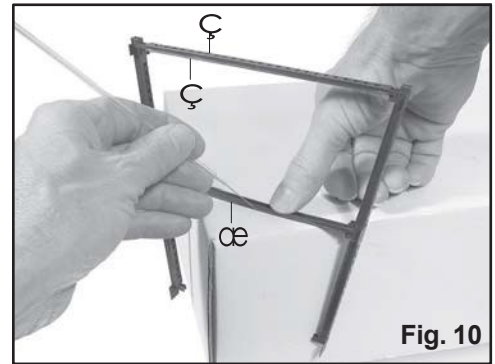

Fig. 10
Hang the bent assembly over the corner of the work table with part (5) or (6) between the work surface and the bent assembly. See Fig. 10. When cementing, use tweezers to hold the bent struts against the raised ribs of part (5) and (6) to prevent the bent struts from bowing.